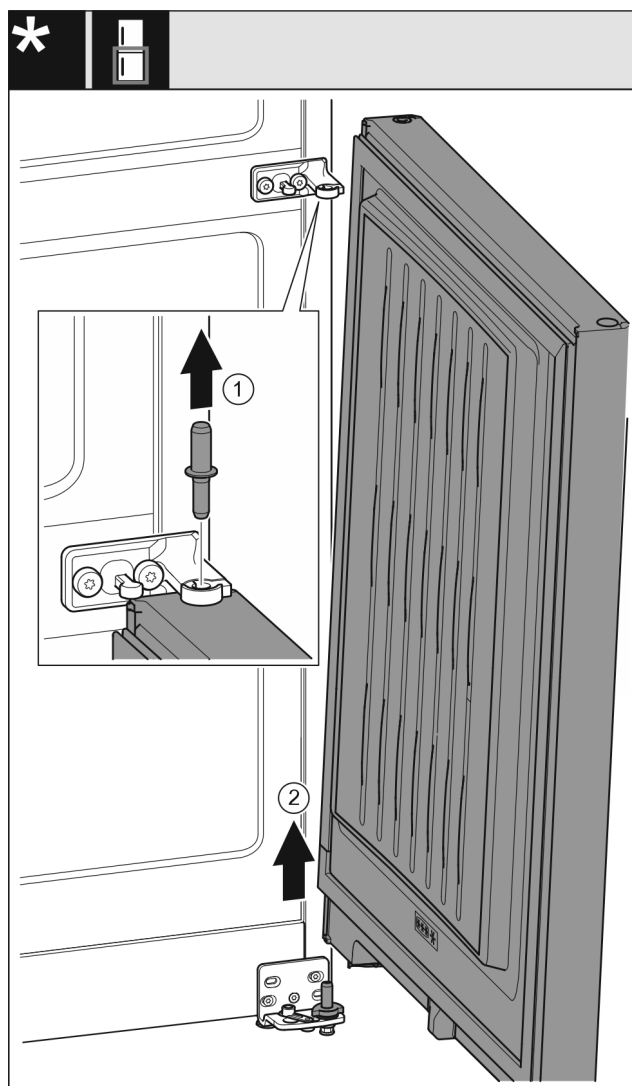

Fig. 11
- Pull out the bolts upwards. Fig. 11 (1)
- Swing the door out, pull it upwards and place it to one side. Fig. 11 (2)